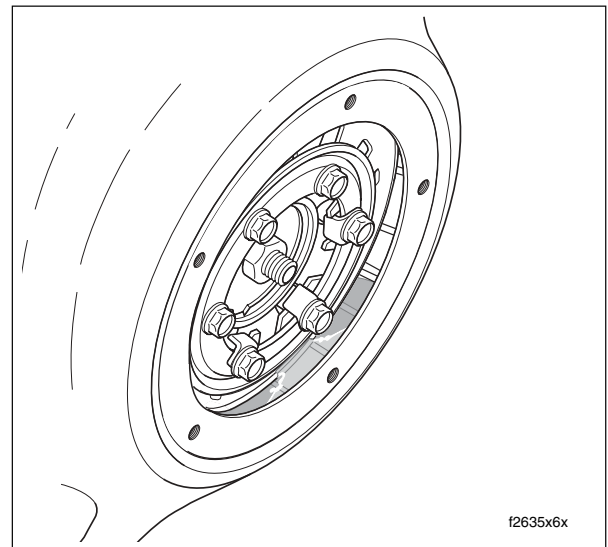

Figure 1-7. Add Primary Chaincase Lubricant
6. Pour 38 ounces (1124 ml) of Harley-Davidson FORMULA+ TRANSMISSION AND PRIMARY CHAINCASE LUBRICANT through the clutch inspection cover opening, Part No. 99851-05 (quart). See Figure 1-7.